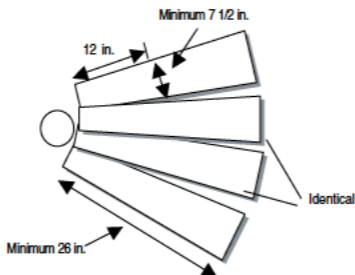

Figure 10-8 SPIRAL STAIRS
- Spiral stairs must be at least 26 in. in width on $7\frac{1}{2}$ in. in depth at 12 in. from the narrow end (Figure 10-8).